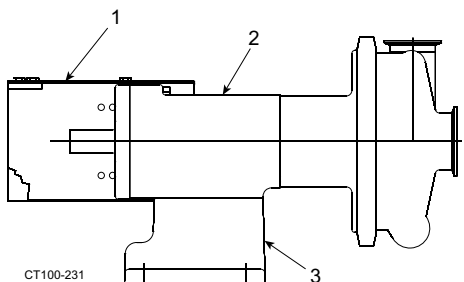

Figure 2 - Style L
The style L arrangement includes the bearing housing (2), coupling guard (1), and pedestal stand (3), for use with T-frame motors. (Figure 2).